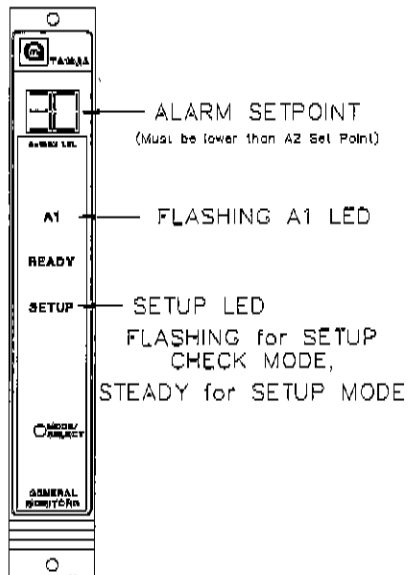

Figure 21
- The last A1 alarm option to appear on the display will be the alarm set point (trip level). If this level is reached or exceeded the A1 alarm outputs will activate. The display will indicate the current A1 alarm set point (figure 21). Press the Mode/Select switch repeatedly, until the desired A1 alarm set point appears on the display. 30 is the factory default for this selection.